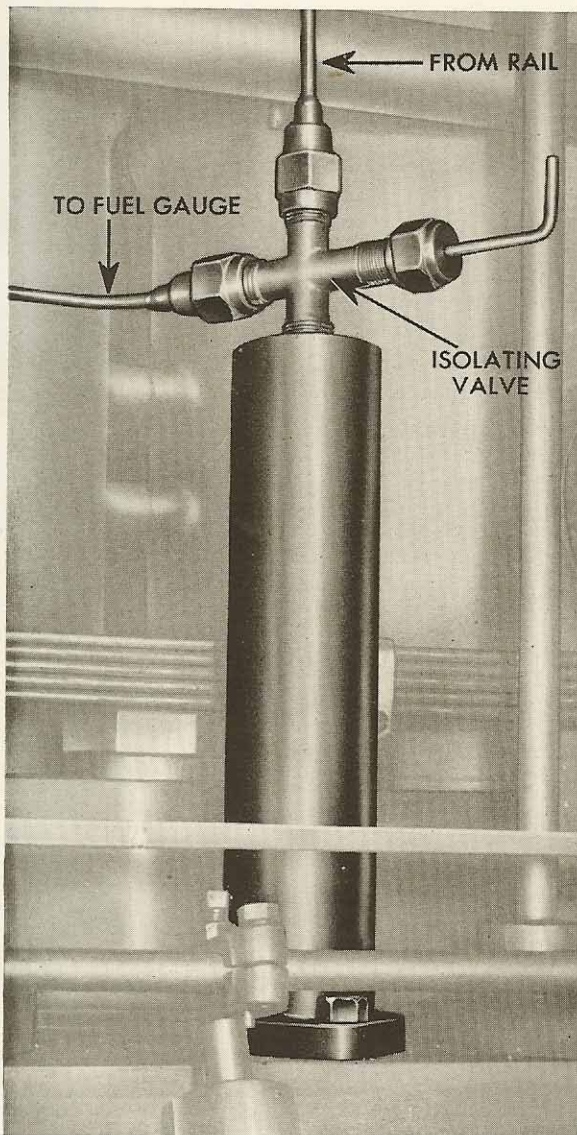

FIGURE 4-6
13. FUEL OIL RECEIVER: The forward end of the common rail connects to a fuel-oil receiver shown in Figure 4-6. This is a tank of small diameter, the purpose of which is to increase the volume of the fuel in the rail which is at high pressure, and thereby reduce pressure fluctuations. The fuel-pressure gauge is usually connected by tubing to this tank, and has an isolating valve which can be partly closed to reduce the vibration of the pointer of the gauge.